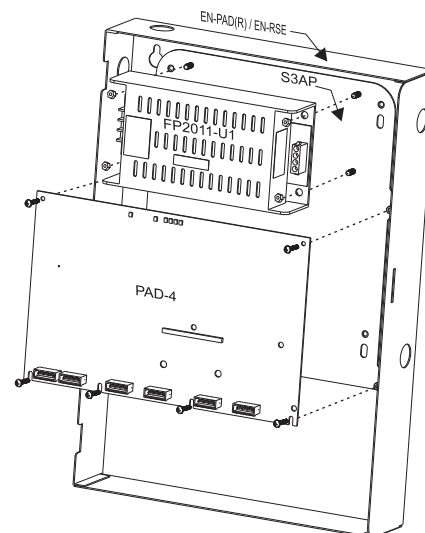

Figure 2
5. Mount the FP2011-U1 Power Supply on the four studs at the top of the S3AP using the hardware supplied with the FP2011-U1 as shown in Figure 2. Refer to the FP2011-U1 installation instructions, P/N 315-050222, for further information.
6. Using the hardware from the PAD-4, place 4 screws in the bottom 4 studs of the S3AP. Place the PAD-4 over the screws and tighten them. Place the remaining 2 screws in the upper right and left corners of the PAD-4 as shown in Figure 2. Refer to the PAD-4 Manual, P/N 315-050217, for further information.
7. Refer to the EN-PAD(R) Installation Instructions, P/N 315-099156 or the EN-RSE Installation Instructions, P/N 315-099156FA for information on mounting the door and the ground strap.
3. Mount the FP2011-U1 Power Supply on the four studs at the top of the S3AP using the hardware supplied with the FP2011-U1 as shown in Figure 2. Refer to the FP2011-U1 installation instructions, P/N 315-050222, for further information.
4. Using the hardware from the PAD-4, place 4 screws in the bottom 4 studs of the S3AP. Place the PAD-4 over the screws and tighten them. Place the remaining 2 screws in the upper right and left corners of the PAD-4 as shown in Figure 2. Refer to the PAD-4 Manual, P/N 315-050217, for further information.